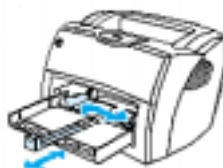

Figure 16. Slide Media Guides Out
9. Slide the media guides out and back to accommodate the media as shown in Figure 16.